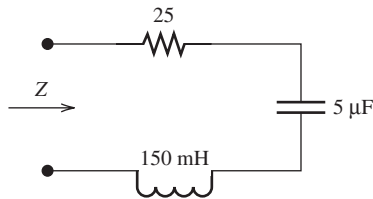

FIGURE P6.21 Circuit for Problem 6.21.
- 6.21 (B) Find Z in Figure P6.21 for $\omega = 200$, $\omega = 500$, and $\omega = 1000$.